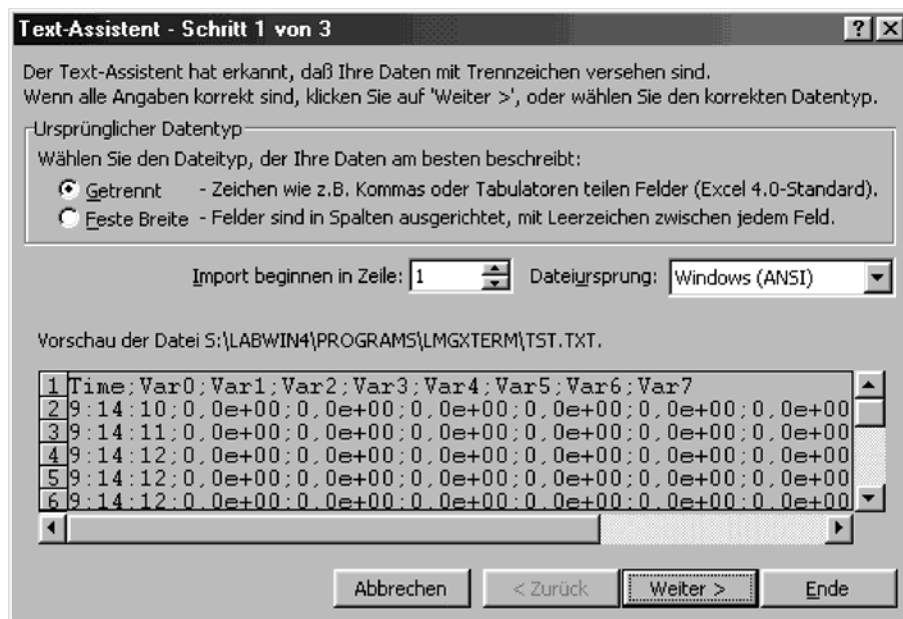

Fig. 19a
4. Follow the instructions of the Text-Wizards (Fig. 19a). It is important to set-up the following parameters: